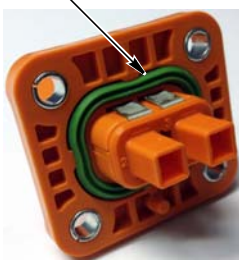

Figure 2
- Check the outer housing subassembly (option 1) or header assembly (option 2) to make sure that the seal is in place. See Figure 2.